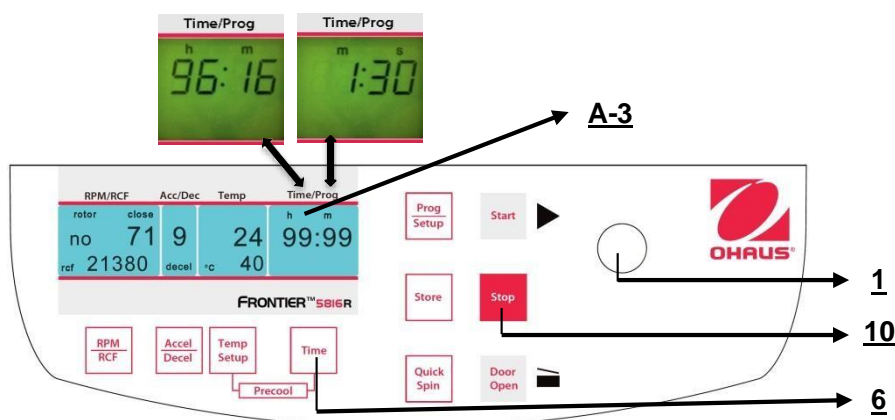

Figure. 20
3. The continuous run "cont", which can be interrupted by the key "Stop"(10) (refer to figure 20).
If the samples are temperature-sensitive it is useful to pre-cool the centrifuge, the rotor and eventually the buckets to the required working temperature. Therefore, insert the desired rotor and pre-set the respective temperature. By simultaneous pressing the keys "**Temp/Setup**" (13) (refer to figure 20) and "**Time**" (6) you start the run. While running, the unit chooses automatically a rotational speed that is equivalent to 20 % of the permitted rotational speed of the respective rotor. After the pre-set temperature is reached you can leave the pre-cooling run with the "**Stop**" key (10).